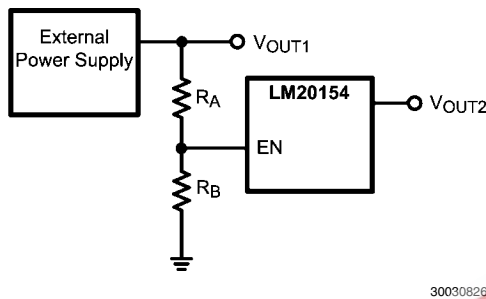

FIGURE 6. Sequencing LM20154 with Precision Enable
The precision enable (EN) and power good (PGOOD) pins of the LM20154 can be used to address many sequencing requirements. The turn-on of the LM20154 can be controlled with the precision enable pin by using two external resistors as shown in *Figure 6*